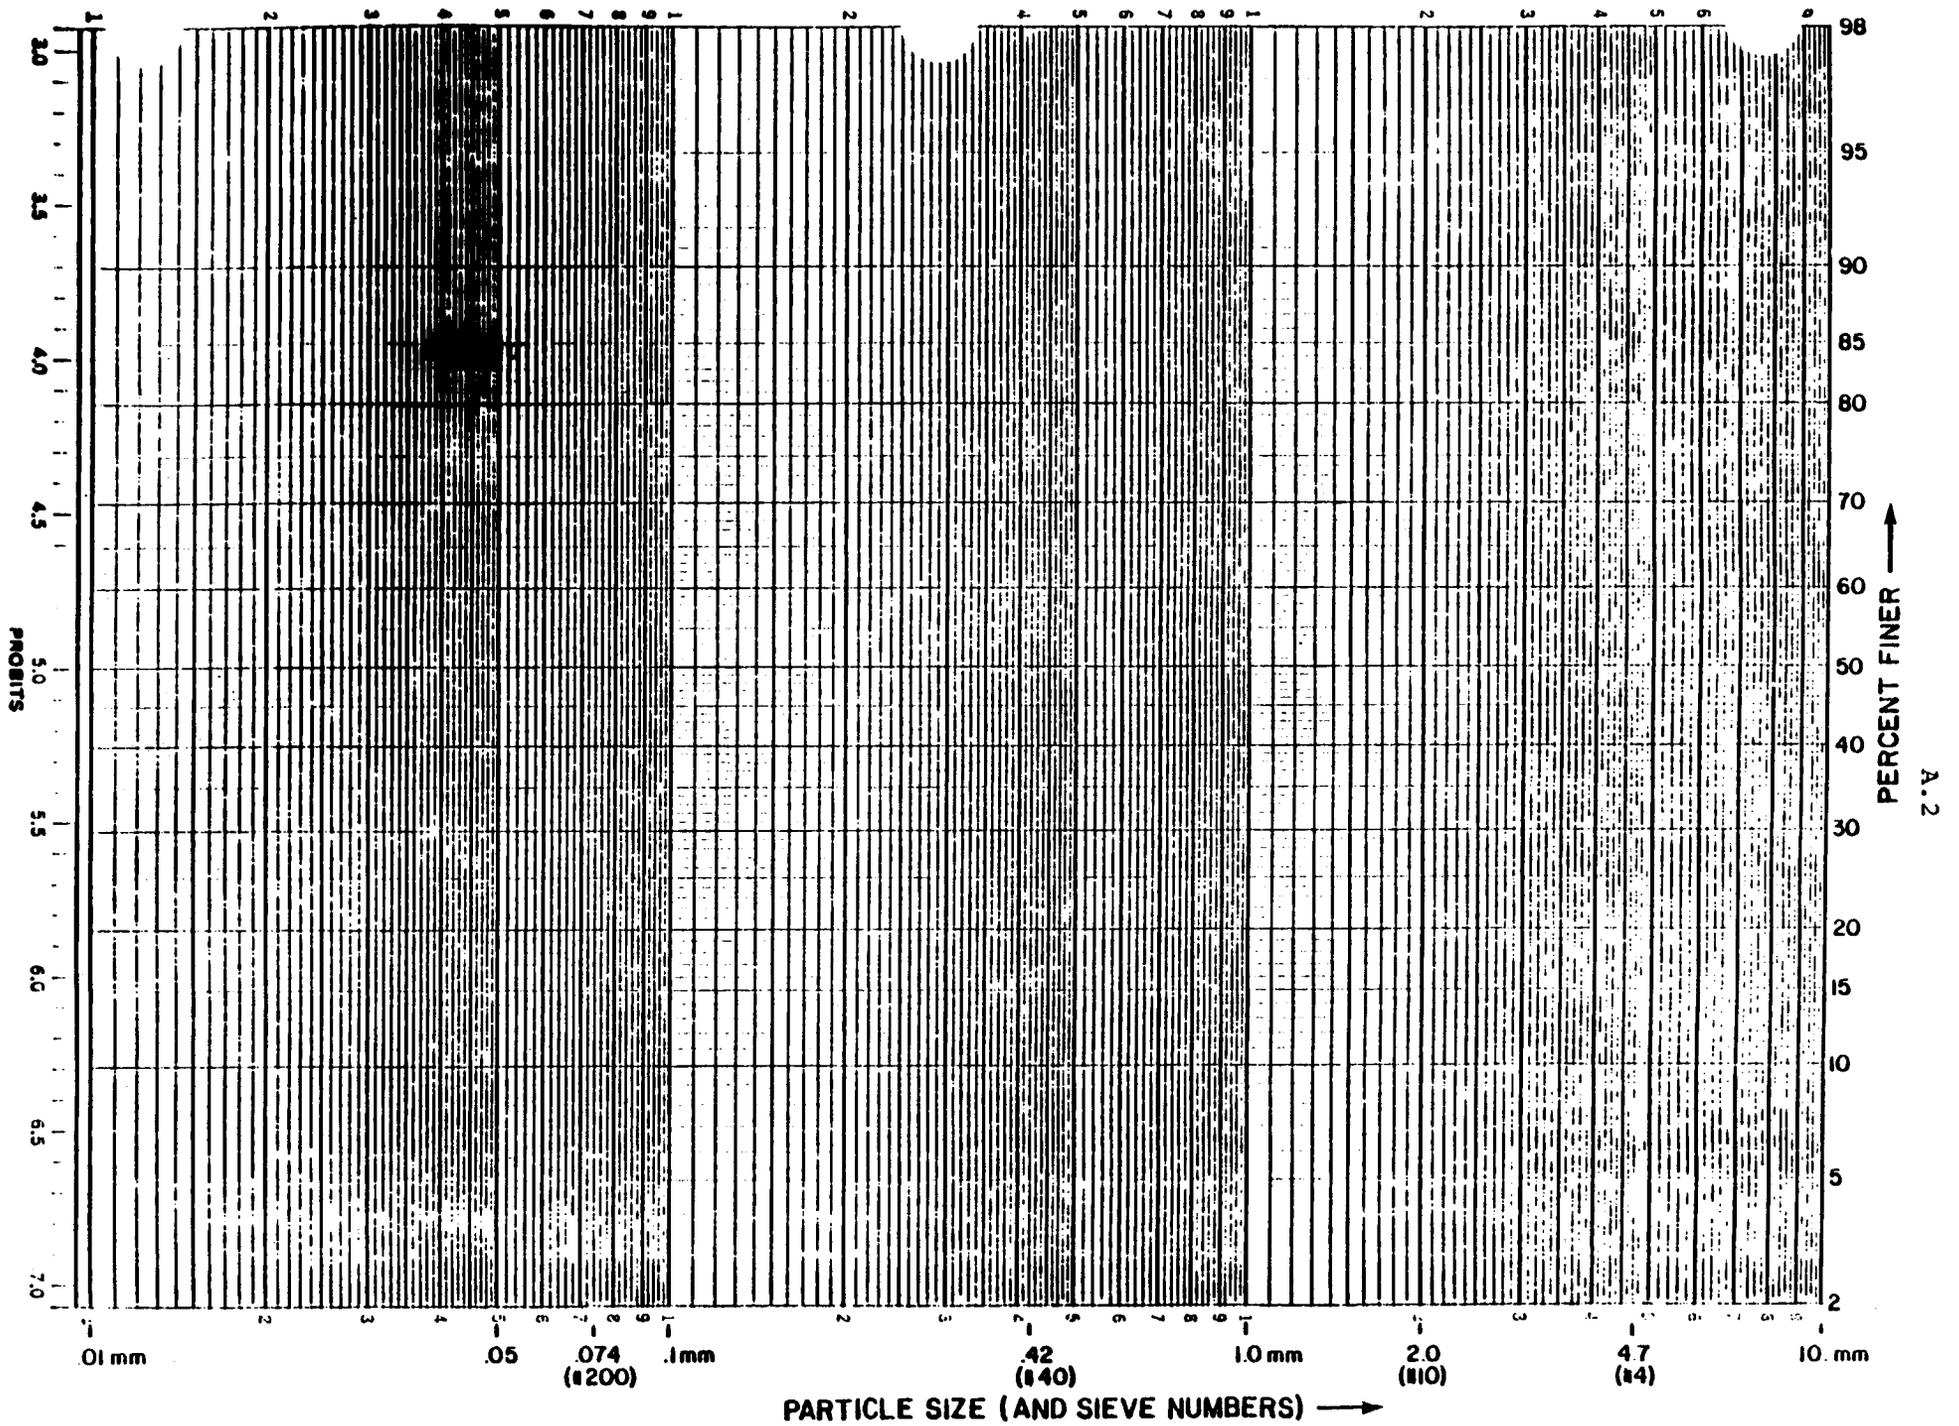

Figure A.1. Log-probability paper.
First the range of values corresponding to the sieve number are plotted on log probability paper (Figure A.1). Then, a straight line is drawn close to the mean of each of the plotted ranges, giving a cumulative frequency distribution. By extrapolating the line down to the 0.05 mm size, the 3 larger particle size groups ( $p_2$ ,  $p_3$ ,  $p_4$ ) used in the design analysis can be determined. The particle sizes are read from the cumulative frequency distribution line and the percent in the particle size class is determined by subtracting out the next smaller class.
- \*1. Plot the cumulative percent given in SCS series description at appropriate points on Figure A.1.